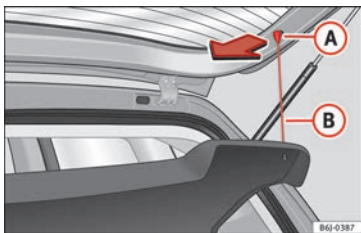

Fig. 159 Rear shelf.
- Unhook the loops » Fig. 159 (A) from housings (A).